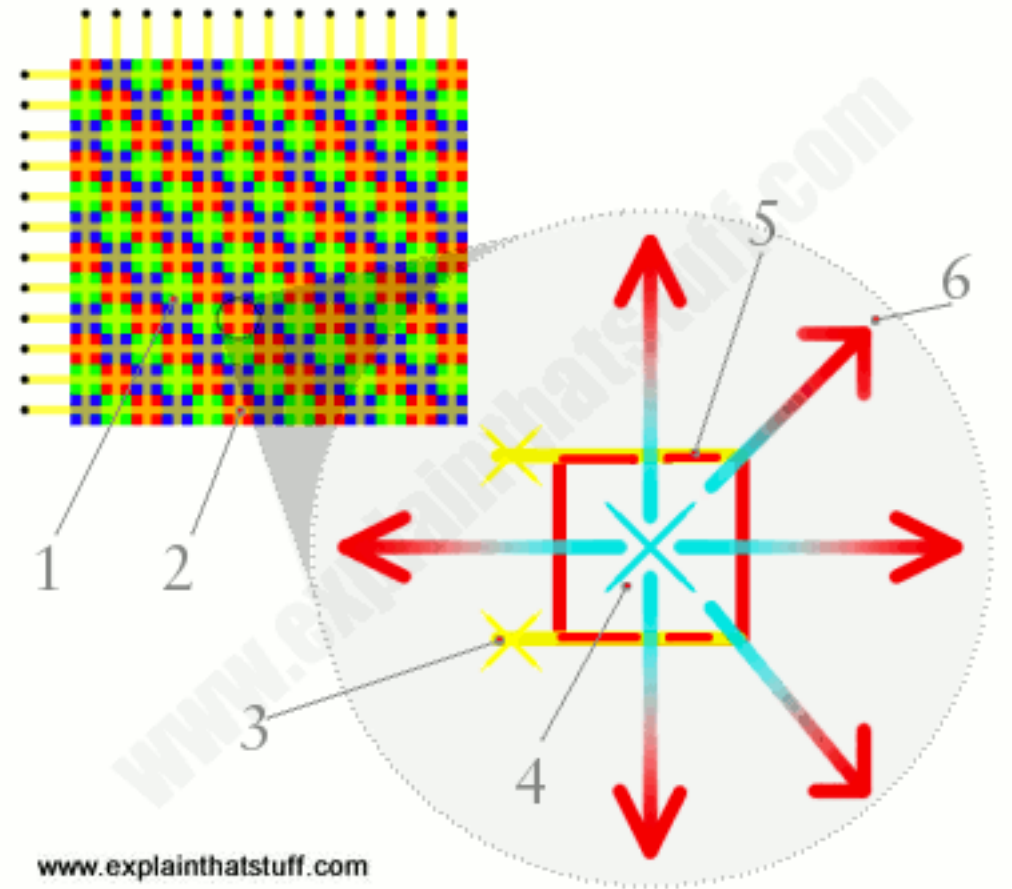

Fig 3
- ❖ *The operation of plasma cells depends on the excitation of phosphors by means of UV rays that are emitted by discharge in the plasma. The discharge in plasma in each pixel is controlled by providing driving voltage to the correct rows and columns of the grid of horizontally and vertically mounted electrodes (shown by yellow lines in fig 3).*
- ❖ *The exact number of pixels depends on the size of the TV screen as well as its resolution. A plasma TV with 854 × 480 has exactly 409,920 pixels. A dot matrix of 640 × 400 pixels is available in the display area of 21 × 13 cm. Resolution of most commonly used enhanced definition (ED) are 840 × 480 and 854 × 480. With the emergence of HDTV, resolution became higher: 1024 × 1024, 1024 × 768, 1280 × 768.*